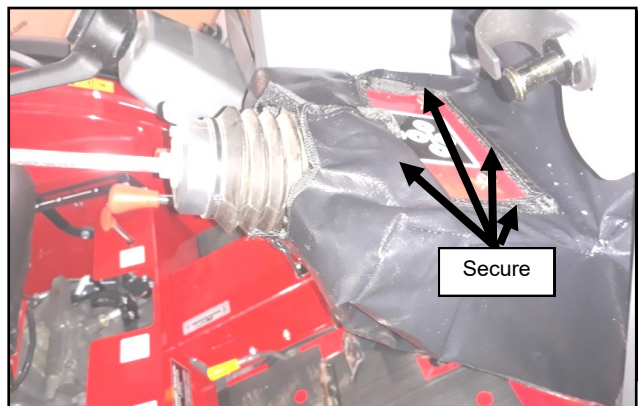

Fig. 20.9 (Secure Around Decal)
- 20.9 Finally secure the filler to the loader control applying Velcro around cutout for decal. See Figure 20.9.